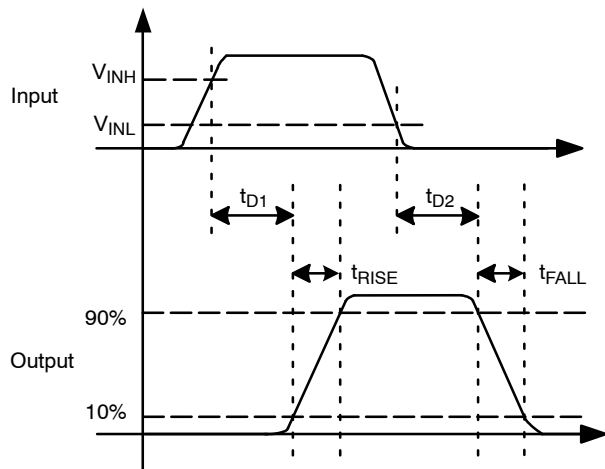
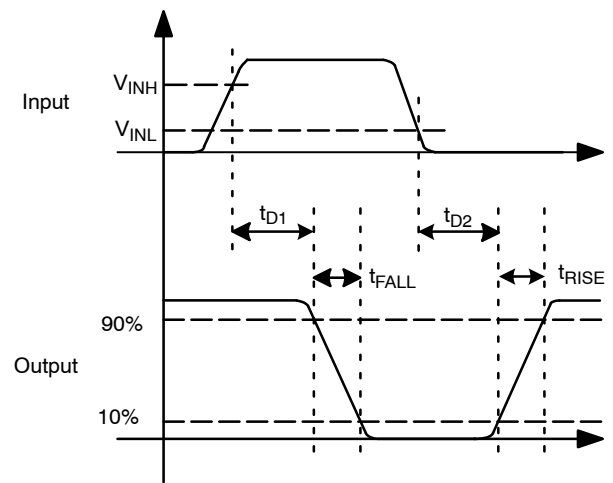

Figure 7. Non-Inverting (EN HIGH or Floating)
Figure 8. Inverting (EN HIGH or Floating)
12. See Timing Diagrams of Figure 7 and Figure 8.